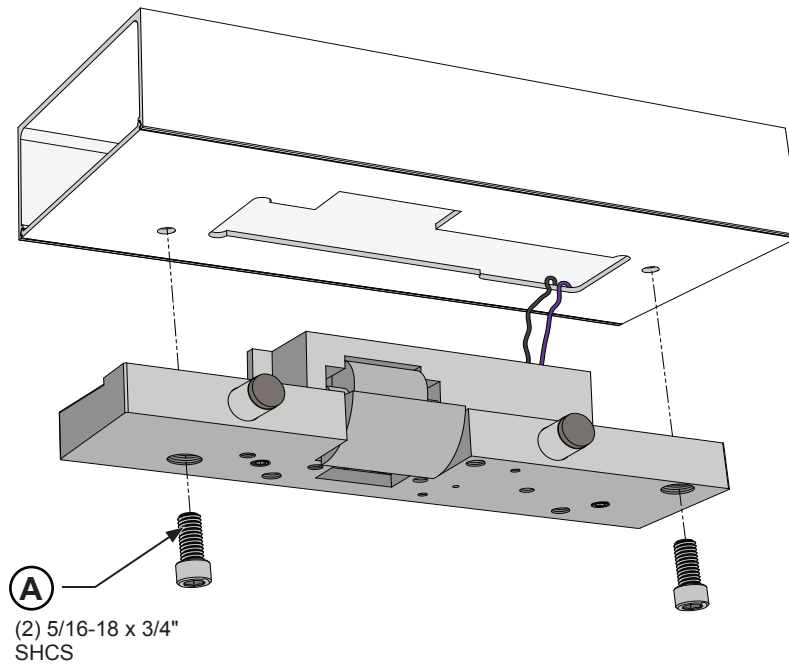

FIG. 8
1. Fasten the Electric Strike to the header using **(A)** (2) 5/16-18 x 3/4" SHCS. **(Fig. 8)**